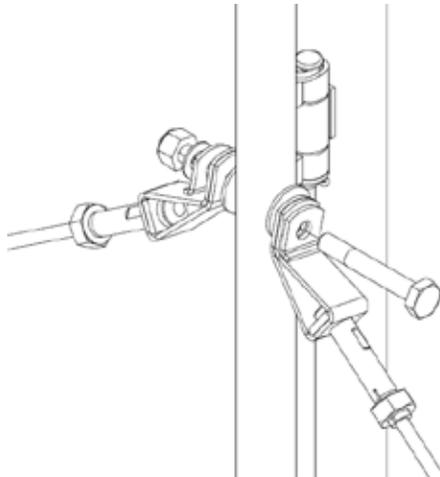

Figure 8 – Vertical Stabilizer Tail Brace Wire
(1) REMOVAL
- (a) Reference figures 8, 9, and 10 for hardware setup.
(2) INSTALLATION
- (c) Position the long tail wires with the fin stringer and insert a clevis pin with washer through the fin and rudder (refer to Figure 8). Secure with washer and cotter pin.